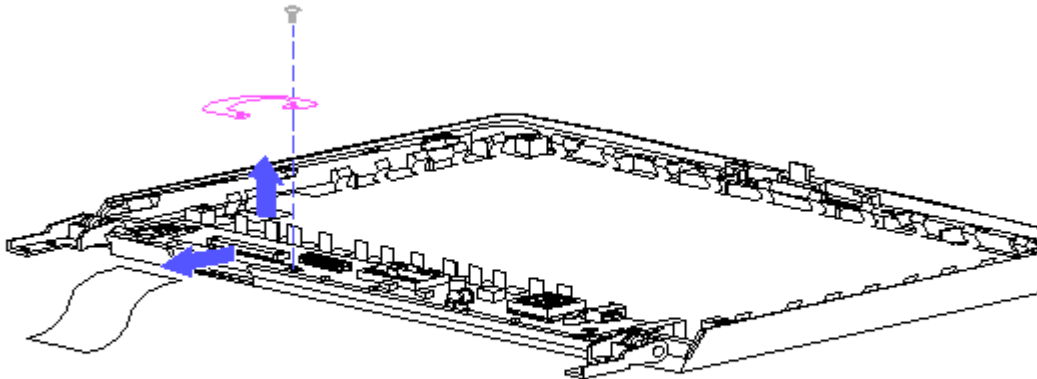

Figure 2-22. Removing Display Cable and Flex Cable Ground Strap from Display Inverter Board
3. Remove the display cable from the display inverter board by gently pulling the cable toward you (Figure 2-22). (Note that the end of the display cable that connects into the display inverter board is labeled with the letters "INV," and the end of the display cable that connects into the processor board is labeled with the letters "CPU.")
4. Using a Phillips P-0 screwdriver, remove the screw that attaches the flex cable ground strap to the display inverter board and then remove the ground strap (Figure 2-22).